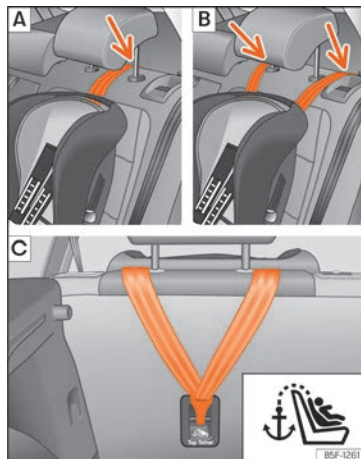
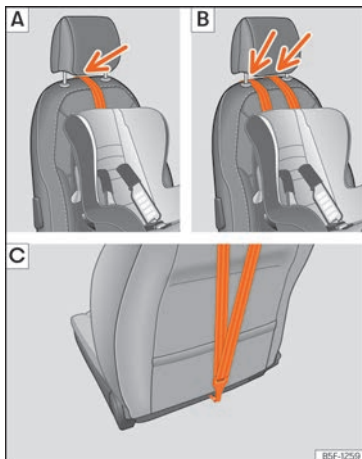

Fig. 34 Rear seats: adjustment and assembly according to the Top Tether belt.
Fig. 35 Front passenger seat: adjustment and assembly according to the Top Tether belt.
»» Fig. 34 [A]/[B], »» Fig. 35 [A]/[B].
- Slide the strap and secure it properly with the anchorage of the backrest »» Fig. 34 [C], »» Fig. 35 [C].